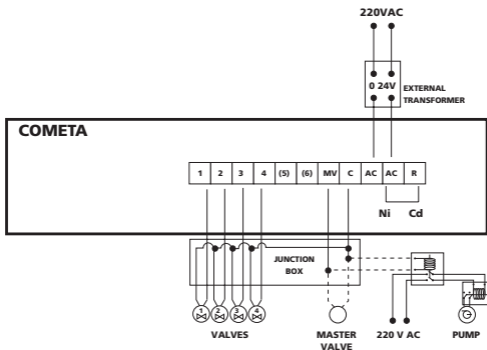

FIG. 1
- the terminals common to all valves (including the Master Valve) are located together in the junction box. **COMETA** can therefore be connected by a single common cable (see diagram in fig. 1);
- if present, the pump must be connected exclusively by a relay which will activate a contactor (see fig. 1).
Make the following connections by inserting at least 15 mm of the relative stripped terminal: the terminal common to each valve and the Master Valve, running from the junction box, to terminal C (fig. 1); the second terminal of each valve to automatic terminals 1 to 4 (6) (fig. 1); the second terminal of the Master Valve and the pump control relay to terminal MV (fig. 1).